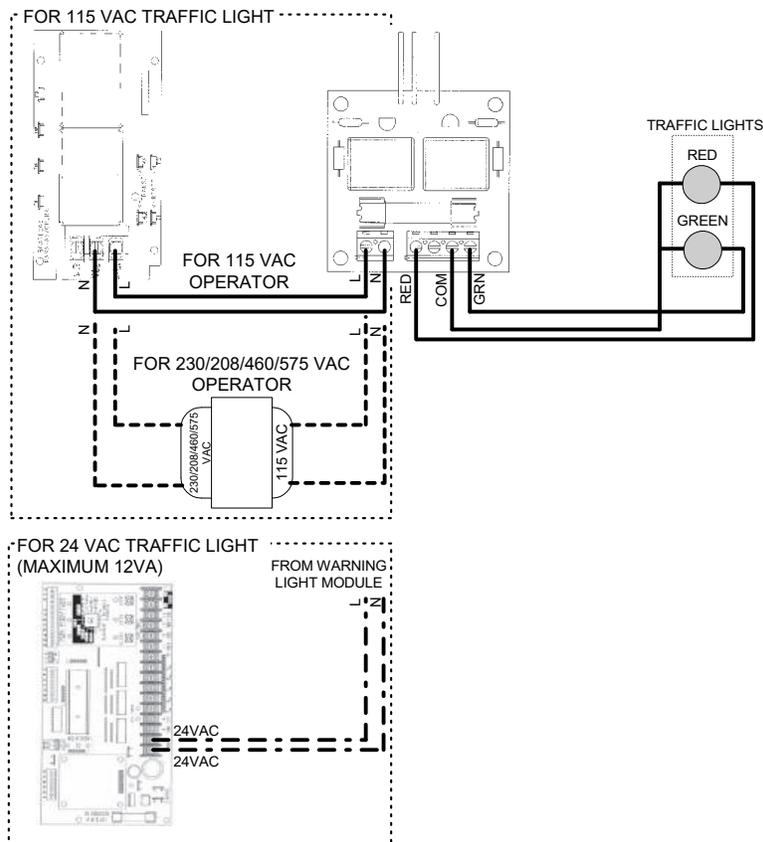

Figure 3 - Traffic Light Wiring Diagram
- Connect traffic light as per Figure 3 below.